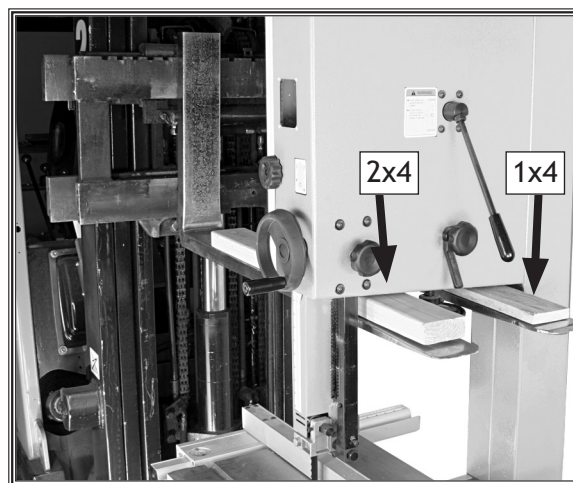

Figure 11. Example of lifting bandsaw with forklift using wood shims.
2. Carefully place the forklift forks under the head and install a 1x4 shim between the head and the left fork and a 2x4 shim between the head and right fork so the bandsaw is level, as shown in **Figure 11**.